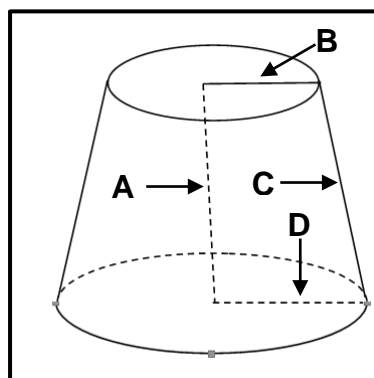

FIGURE 11.2
- 11.2 FIGURE 11.2 below shows a cone. Answer the questions that follow.